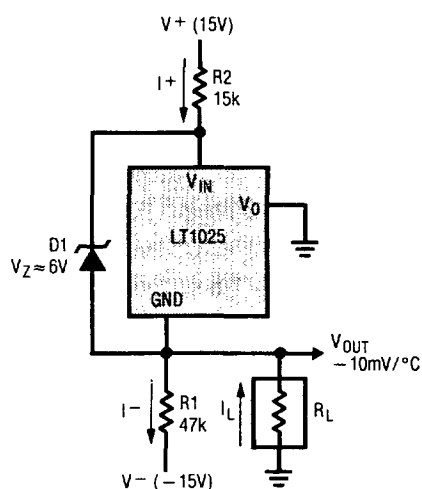

Figure 3
The LT1025 can be made to "stand on its head" to achieve a minus 10mV/°C output point. This is done as shown in Figure 3. The normal output (VO) is grounded and feedback is established between the ground pin and the positive supply pin by feeding both of them with currents while coupling them with a 6V zener. The ground pin will now be forced by feedback to generate -10mV/°C as long as the grounded output is supplying a net "source" current into ground. This condition is satisfied by selecting R1 such that the current through R1 (I-) is more than the sum of the LT1025 supply current, the maximum load current (IL), and the minimum zener current (≈50μA). R2 is then selected to supply more current than I-.